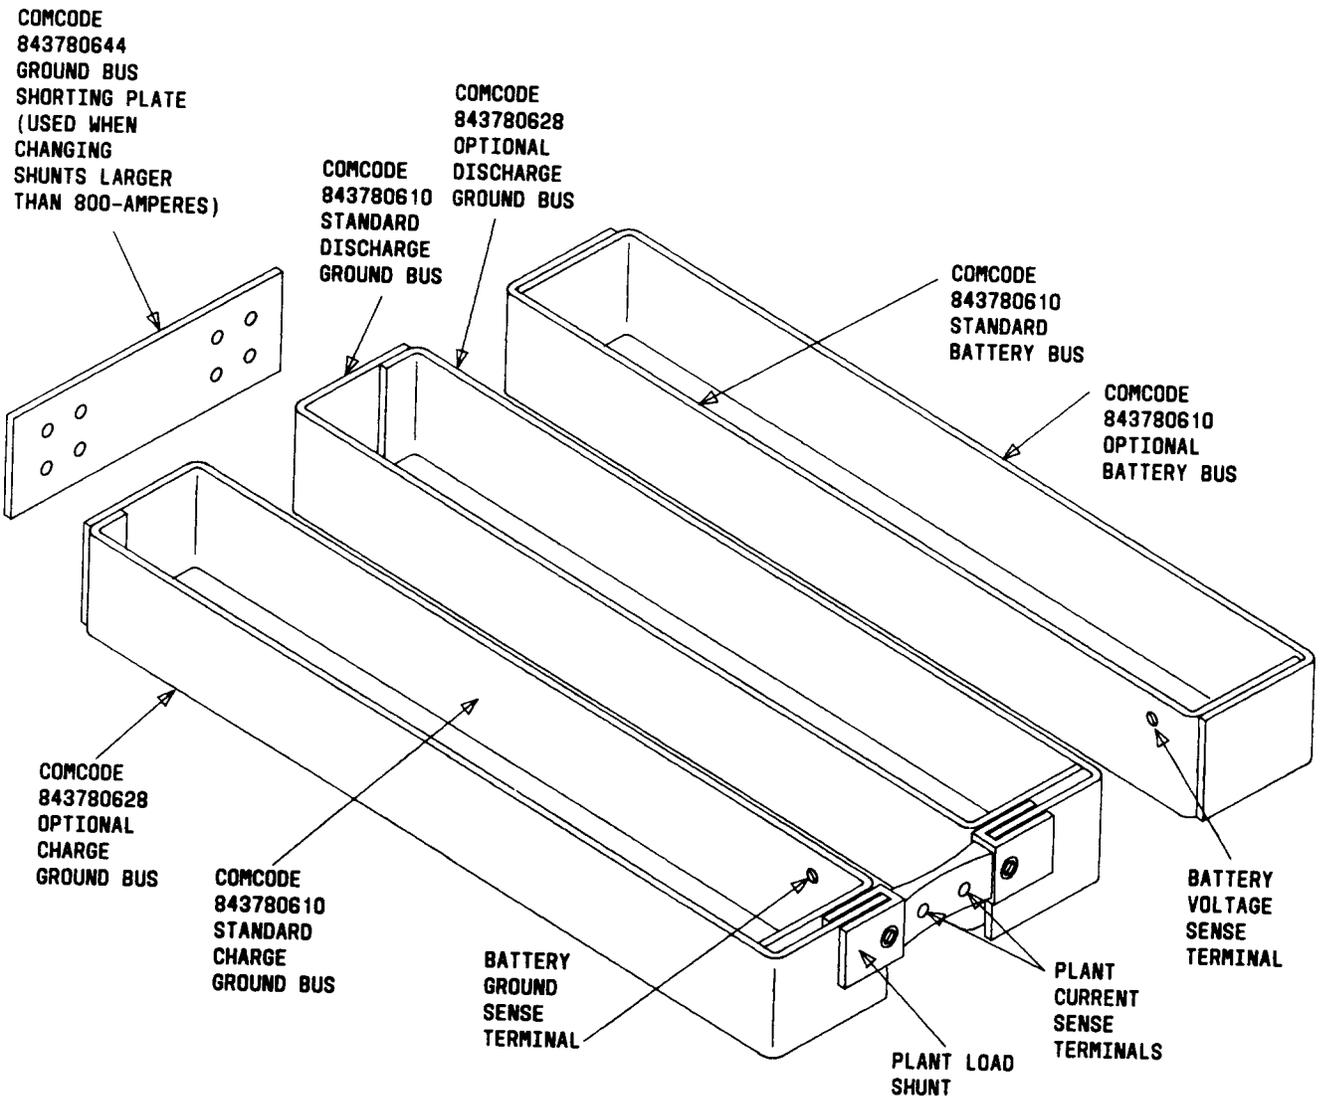

Fig. 9—Plant Bus Bars and Shunt
3.33 General: The first battery string in the plant is equipped with bus bars and shunt which may be upgraded as necessary (Fig. 9). The plant voltage is sensed on the standard battery bus bar and provides the regulation voltage for each individual rectifier as well as the plant controller. The plant load current is measured across the shunt connecting the charge ground bus to the discharge ground bus.
3.36 Ground Bus Shorting Plate: The ground bus shorting plate (Fig. 9) is used to short the charge ground bus to the discharge ground bus when changing the large shunts rated at 1200 amperes or more.